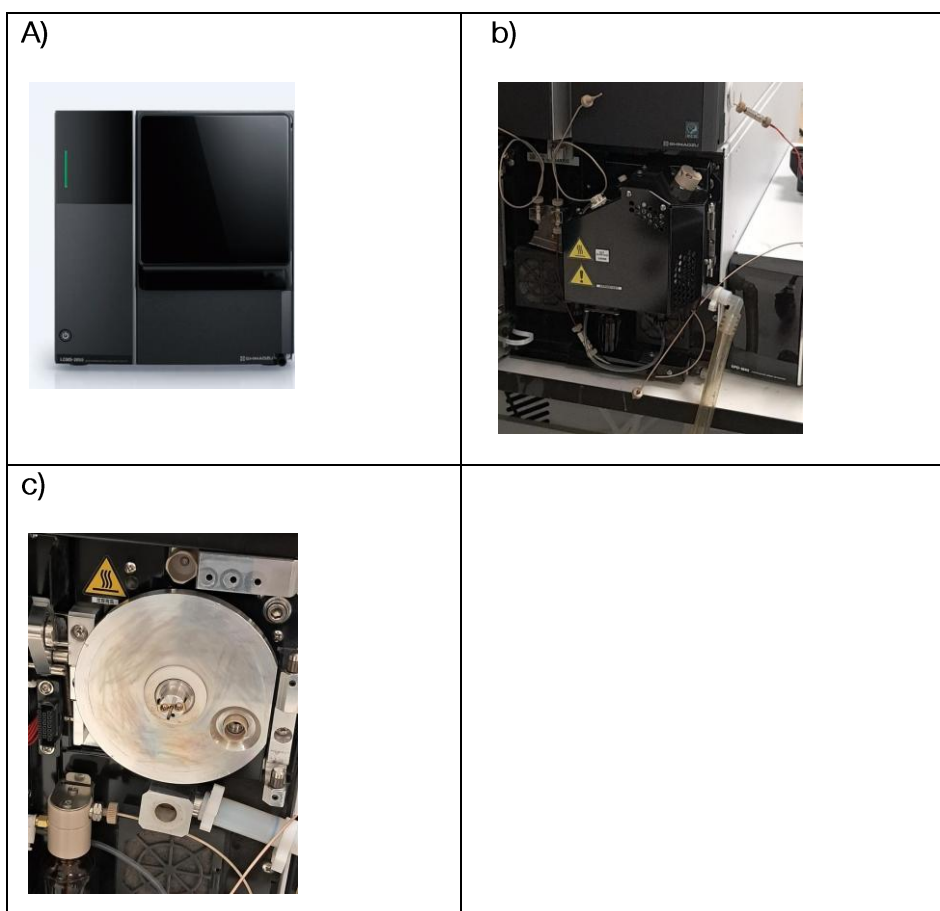

Figure 2 Open the LCMS 2050 front door (a), Remove Interface, b), Remove sampling cone and APCI Needle
- Open the front door (see Fig. 2 a)